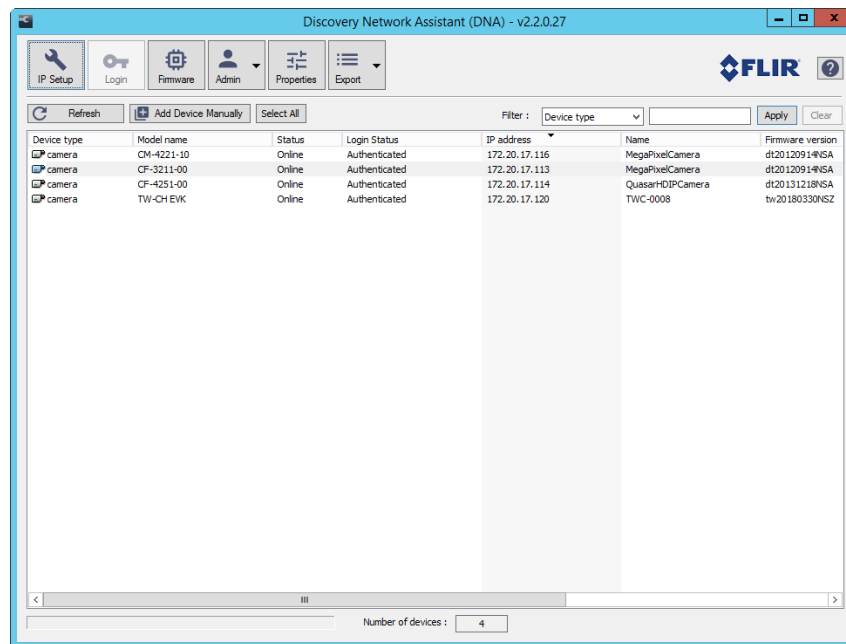

Figure 10: DNA Discovery Window
2. Run the dna.exe file by clicking the  icon. The DNA application opens and the device is displayed in the **DNA Discovery** window. See Figure 10: DNA Discovery Window (page 16).